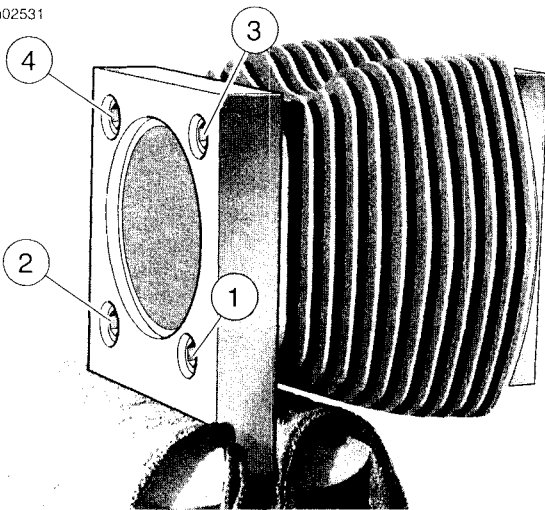

Figure 3-115. Cylinder Torque Plate Bolt Sequence
- c. Lightly oil threads and shoulders of four bolts (1) with clean H-D 20W50 engine oil and slide through holes of lower plate (2).
- e. Place a used head gasket on cylinder and install upper plate with blind holes aligned with dowel pins in cylinder. Secure with bolts (1).
- f. See Figure 3-115. Tighten the bolts to 120-144 **in-lbs** (13.6-16.3 Nm) in the sequence shown.
- h. Turn each bolt an additional 90 degrees in the sequence shown in Figure 3-115.